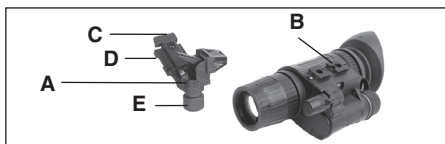

Figure 3.8
1. Attach the adapter (Figure 3.8, A) to the rail (B) of ATN NVM-14. Push the clip (C) and slide the rail of monocular
3. With this adapter you may see through the eyepiece using either right or left eye. To change the viewing eye, loosen the nut (Figure 3.8, E) and rotate the socket (D) 180 degrees. Tighten the nut (E) anew.